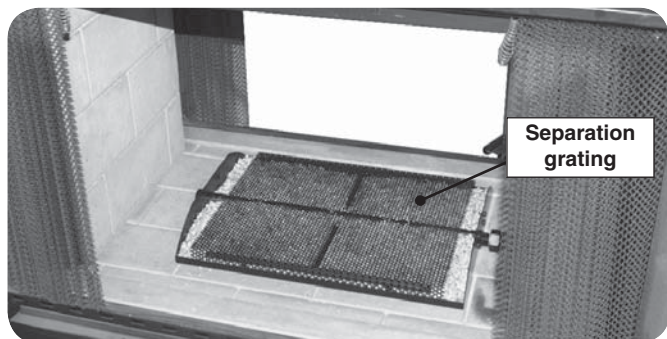

Fig. 8-2
2. Place the separation grating over the granules so that the angled parts hook over the front and back of the burner pan, as shown in Fig. 8-2.